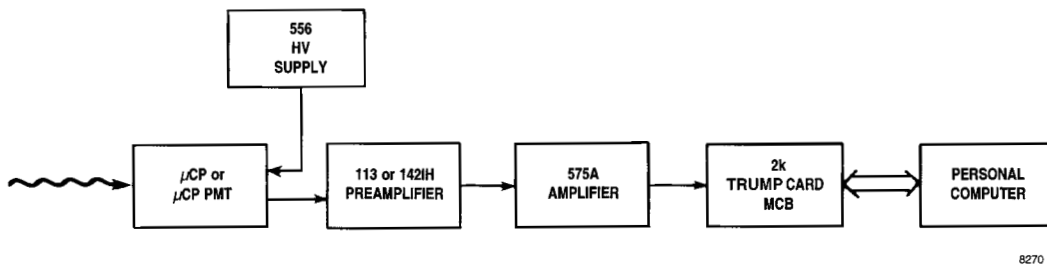

Fig. 3. Pulse-Height (Charge) Spectroscopy with a Microchannel Plate (μ CP) Detector, or a Microchannel Plate Photomultiplier Tube (μ CP PMT).
Figures 3 through 10 show systems for pulse-height spectrometry with a variety of detector types. The following types are included:
- Microchannel plate detector (Fig 3).
- Microchannel plate photomultiplier tube (Fig. 3).
If nuclear or x-ray radiation is being detected, the pulse-height is usually calibrated in terms of the energy of the radiation. Hence the term “energy spectroscopy” is used. For other types of signal sources, the pulse height simply represents the charge deposited in the detector by the event. Consequently, the measurement process can be considered to be either “charge” or “pulse-height” spectrometry. In Figures 3 through 9, a preamplifier integrates the charge deposited in the detector, an amplifier shapes the pulses for pulse-height measurement, and a multichannel buffer (ADC plus memory) sorts the pulse heights into a spectrum.